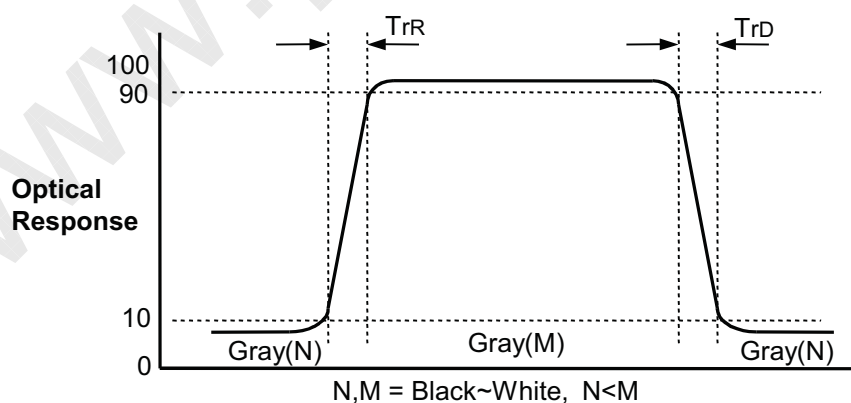

FIG. 3 Response Time
- Response time is the time required for the display to transit from any gray to white (Rise Time, T_{rR}) and from any gray to black (Decay time, T_{rD}). For additional information see the FIG. 3.